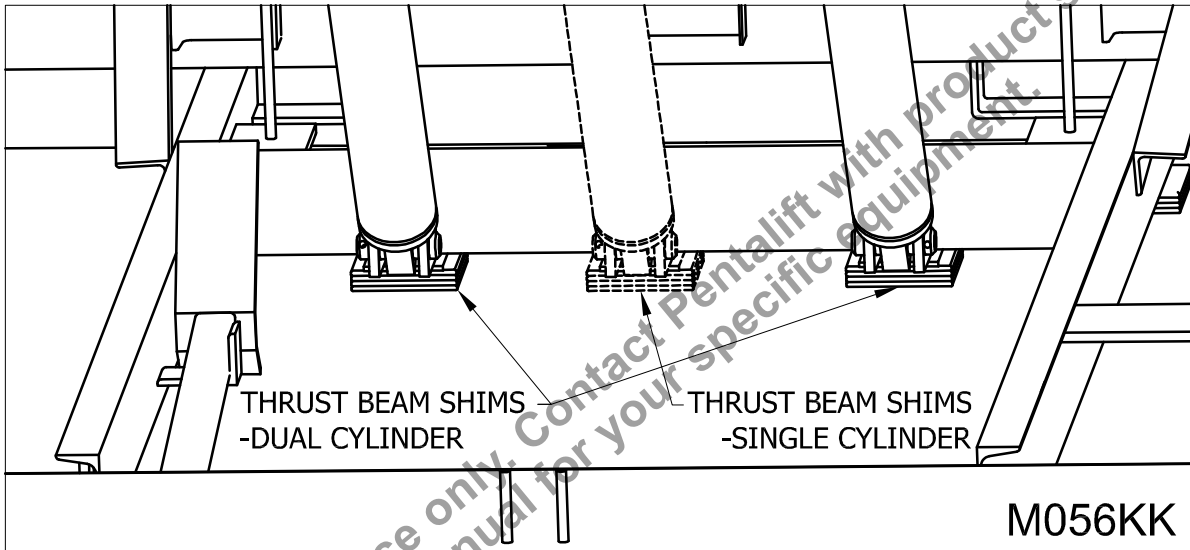

Figure 32: Thrust Beam Shim(s)
4. \_\_\_ Thrust beam shim(s). (See "Figure 32: Thrust Beam Shim(s)" on page 28)